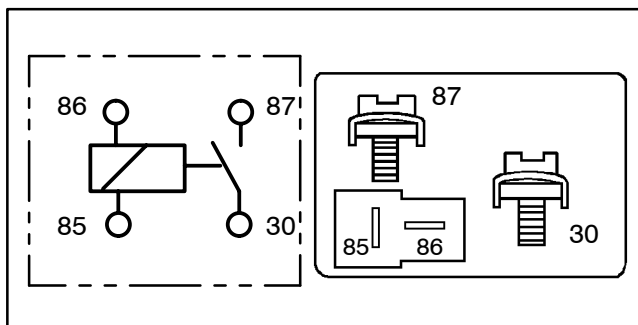

Figure 10
1. Verify coil resistance between terminals 86 and 85 with a multimeter (ohms setting) (Fig. 10). Resistance should be from 41 to 51 ohms.